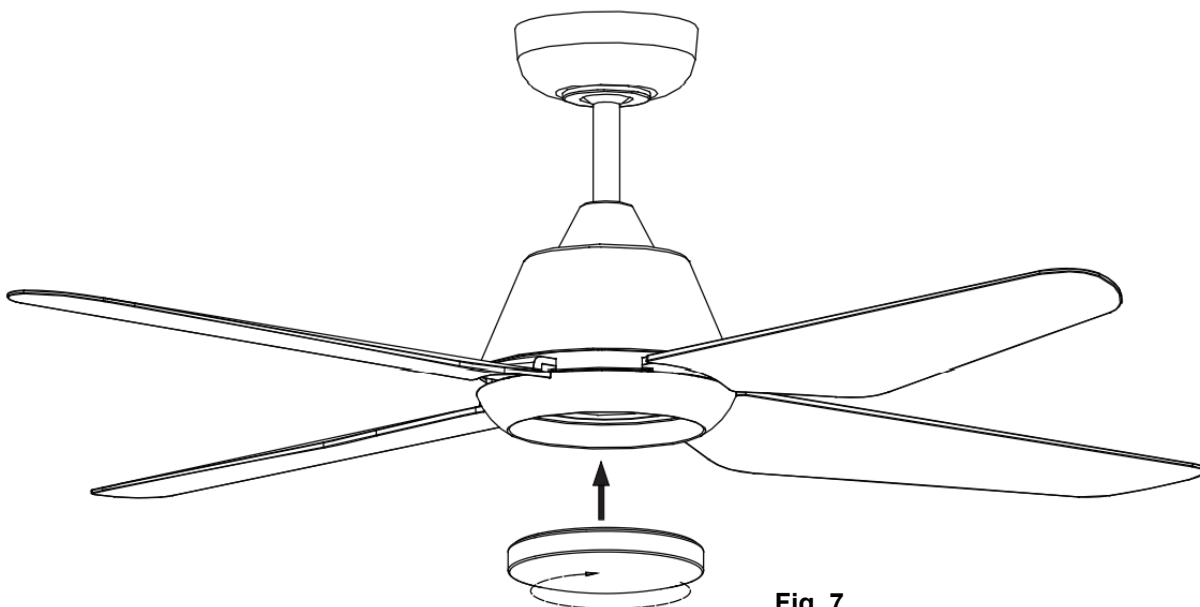

Fig. 7
INSTALLATION OF LAMP (Fig. 7)
- Install the lamp on the fan assembly then secure it by turning clockwise. (Fig. 7)
ELECTRICAL WIRING DIAGRAM THE FAN**PREPARE AND COMPLETE THE ELECTRICAL WIRING --- WIRING DIAGRAM (FIG. 7)**